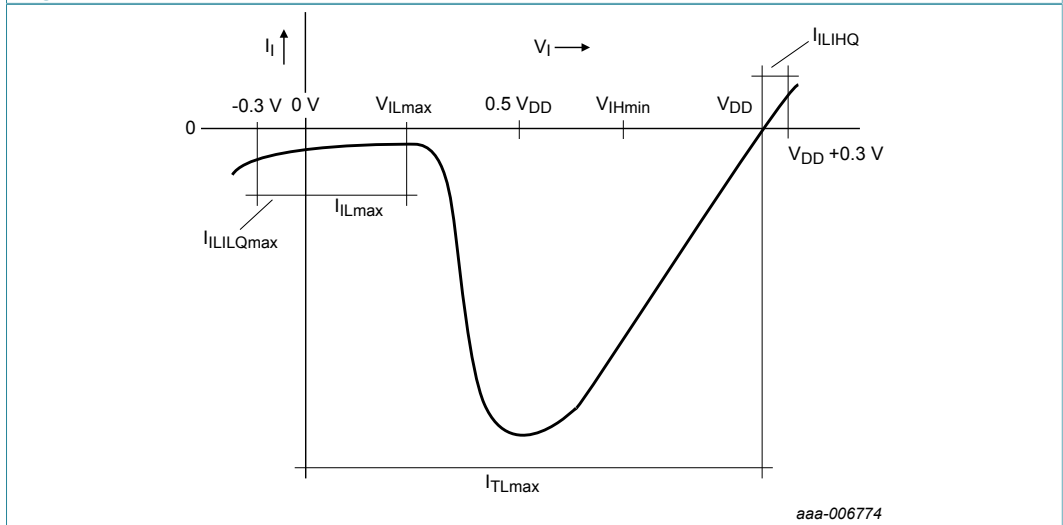

Figure 6. Input characteristic of IO1/IO2 in "quasi-bidirectional" mode
- [1] IO1/IO2 source a transition current when being externally driven from HIGH to LOW. This transition current ( $I_{TL}$ ) reaches its maximum value when the input voltage  $V_I$  is approximately 0.5  $V_{DD}$ . Current  $I_{IL}$  is tested at input voltage  $V_I = 0.3 \text{ V}$ . Figure 6 shows the input characteristic of this quasi-bidirectional port mode.